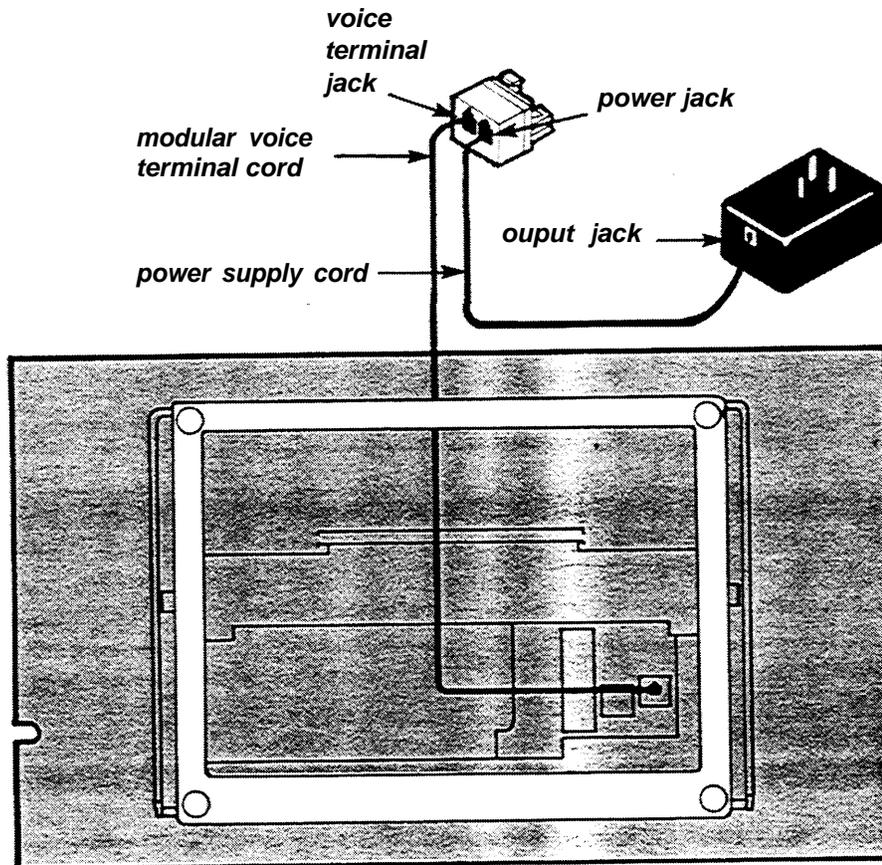

Figure 8.
1. Plug the modular voice terminal cord (marked D8W on its jack) into the voice terminal jack on the Z400F adapter (see Figure 8).
2. Plug one end of the power supply cord (marked D6AP on its jack) into the power jack on the Z400F adapter. Plug the other end into the output jack on the power supply (see Figure 8).